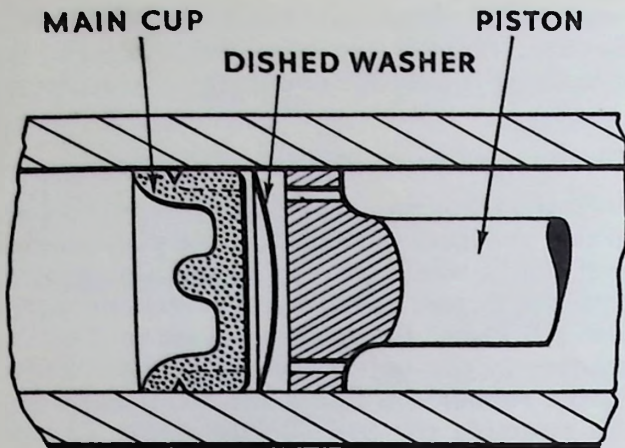

Fig. 4. Section through Master Cylinder showing Position of Dished Washer.
release additional fluid drawn into the cylinder from the annular space formed by the reduced skirt of the piston (H), through the small holes in the piston, after each brake application. A dished washer (S) is fitted between the rubber cup and the piston to prevent the adhesion of one to the other. For exact position of washer see Fig. 4. If this aforementioned additional fluid is not released to the reservoir through the by-pass port, it is due either to the hole being covered by the main cup as a result of incorrect pedal adjustment, or to the hole being choked by foreign matter and pressure will build up in the system and all brakes will drag.